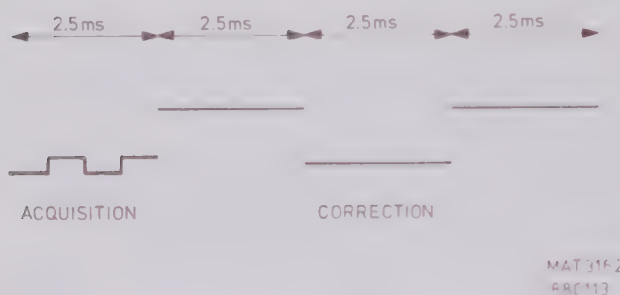

Figure 9.5 Gain adjustment.
- Apply a square wave of 2 Vpp, 1 kHz to the channel A (B) input.
- Adjust the square-wave amplitude in the acquisition stroke to minimal (see figure 9.5) with R8342 (R8382 for ch. B).
- Adjust the square-wave response of Ch. A (Ch. B) with R7512 and R7513 on unit A33 (R7712 and R7713 on unit A33) so that overshoot + ringing do not exceed 6% during the first 10 nsec of the pulse. Figure 9.5 explains this.